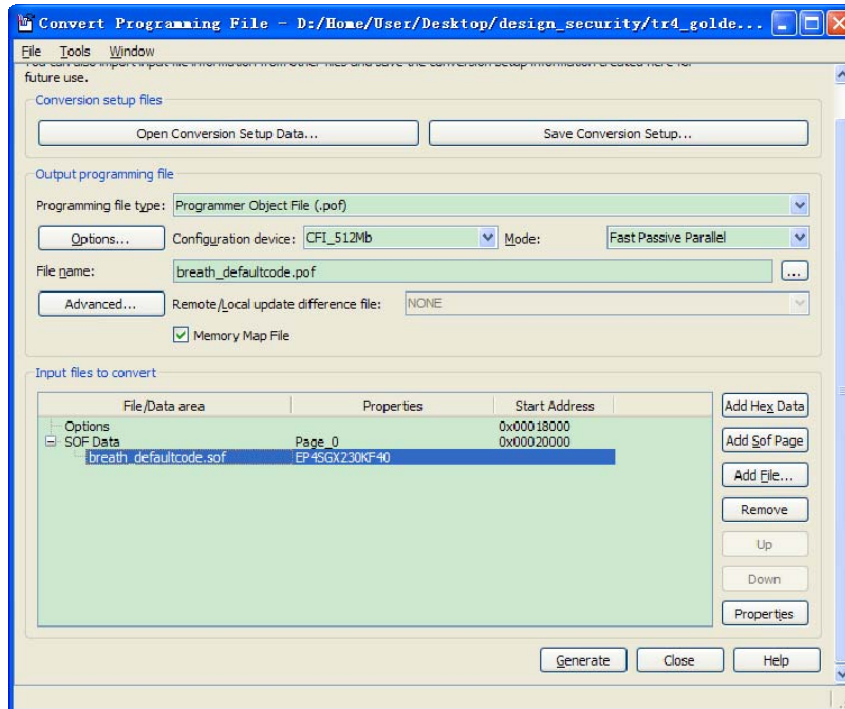

Figure 3-7 Convert Programming Files Dialog Box
- p. Click OK. The **Convert Programming Files Dialog Box** shown as Figure 3-7.